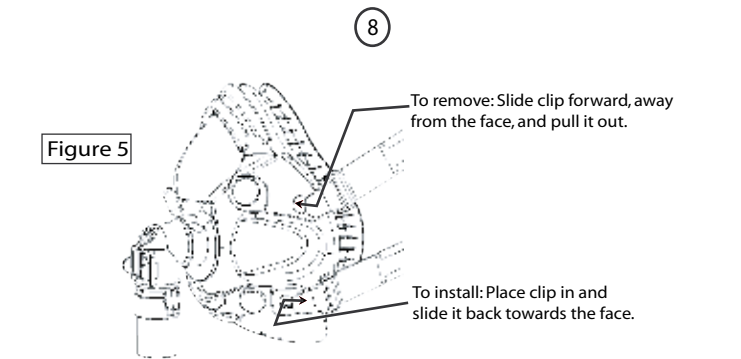

Figure 5
- b. Quick-Release Headgear: (fig 5) Unsnapping one of the lower headgear strap quick-release clips from the mask will allow complete removal of the mask assembly.